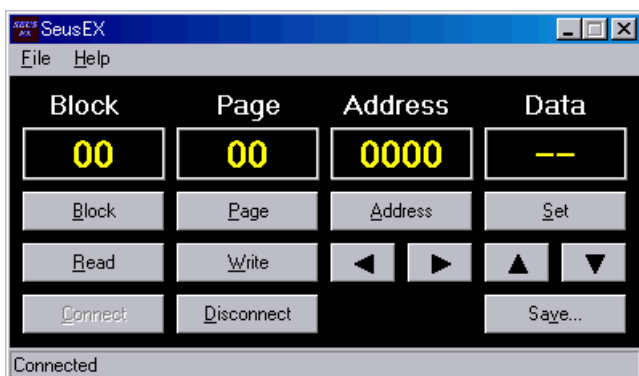

Fig. 6-3-1
- 4) Click **[Connect]** on the SeusEX screen. If the connection is normal, the SeusEX screen will be as shown in Fig. 6-3-1, indicating the “connected” state.